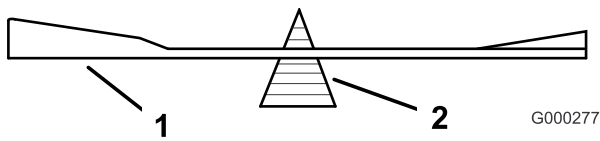

Figure 69
2. Check the balance of the blade by putting it on a blade balancer (Figure 69). If the blade stays in a horizontal position, the blade is balanced and can be used. If the blade is not balanced, file some metal off the end of the sail area only (Figure 69). Repeat this procedure until the blade is balanced.